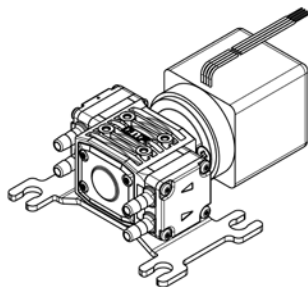

Fig. 3 : NFB 25
**NFB 25 Version** (double-headed pump, see Fig. 3)